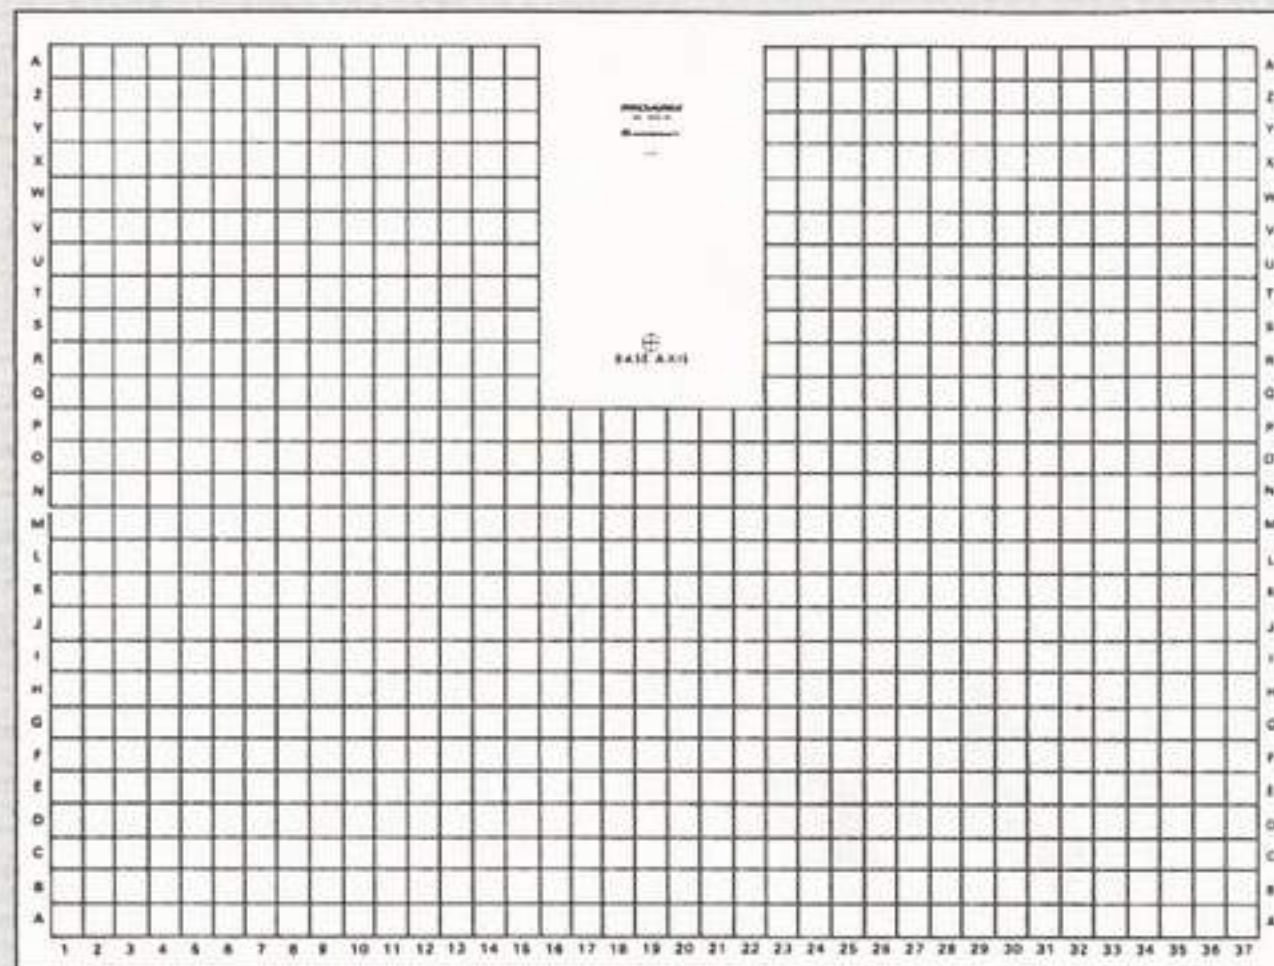

Fig. 79: Working Space Chart—Horizontal Work Envelope
- ___ p. Copy the Horizontal Work Envelope from the grid sheet onto the appropriate portion of the Working Space Chart in Fig. 79.